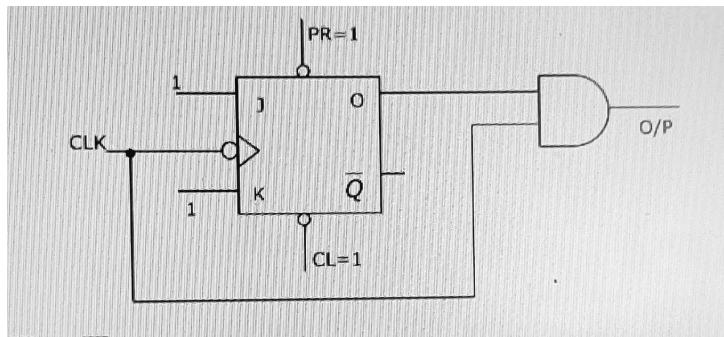

Fig. 5.18
18. The digital circuit shown in Fig. 5.18 generates a modified clockpulse at the output. Sketch the output waveform. (GATE EE 2004)